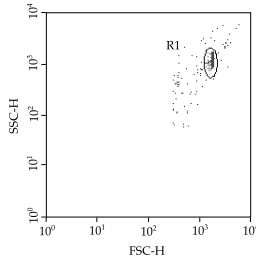

Figure 3a
Adjust gate R1 so that the singlet bead population is located in gate R1 (*Figure 3a*).
6. In setup mode, run tube no. 1 and using the FSC vs. SSC dot plot, place the R1 region gate around the singlet bead population (see *Figure 3a*).